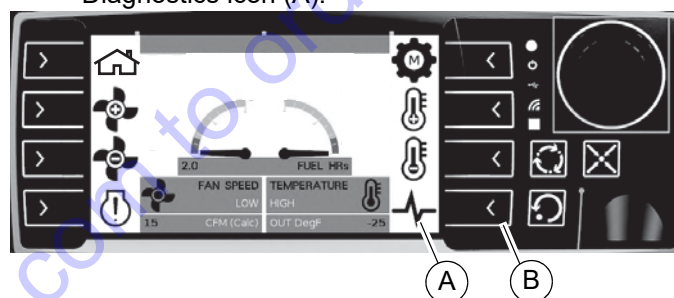

Figure 2-19. Accessing Engine Diagnostics
1. See Figure 2-19. Access a page displaying the Diagnostics icon (A).